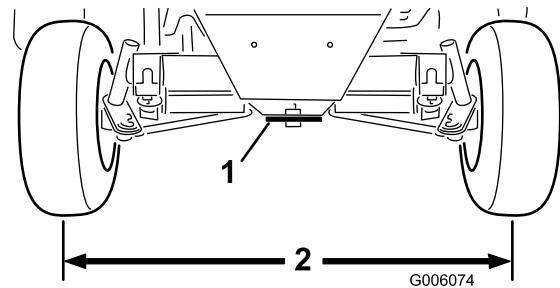

Figure 48
2. Loosen the jam nuts on both tie rods. Adjust both tie rods until center-to-center distance at front and back of rear wheels is the same (Figure 48).